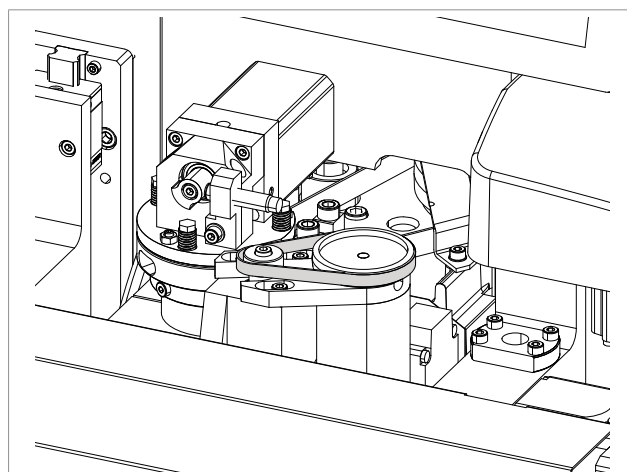

Fig. 95
- 5) Remove the worn or broken belt (Fig. 95).